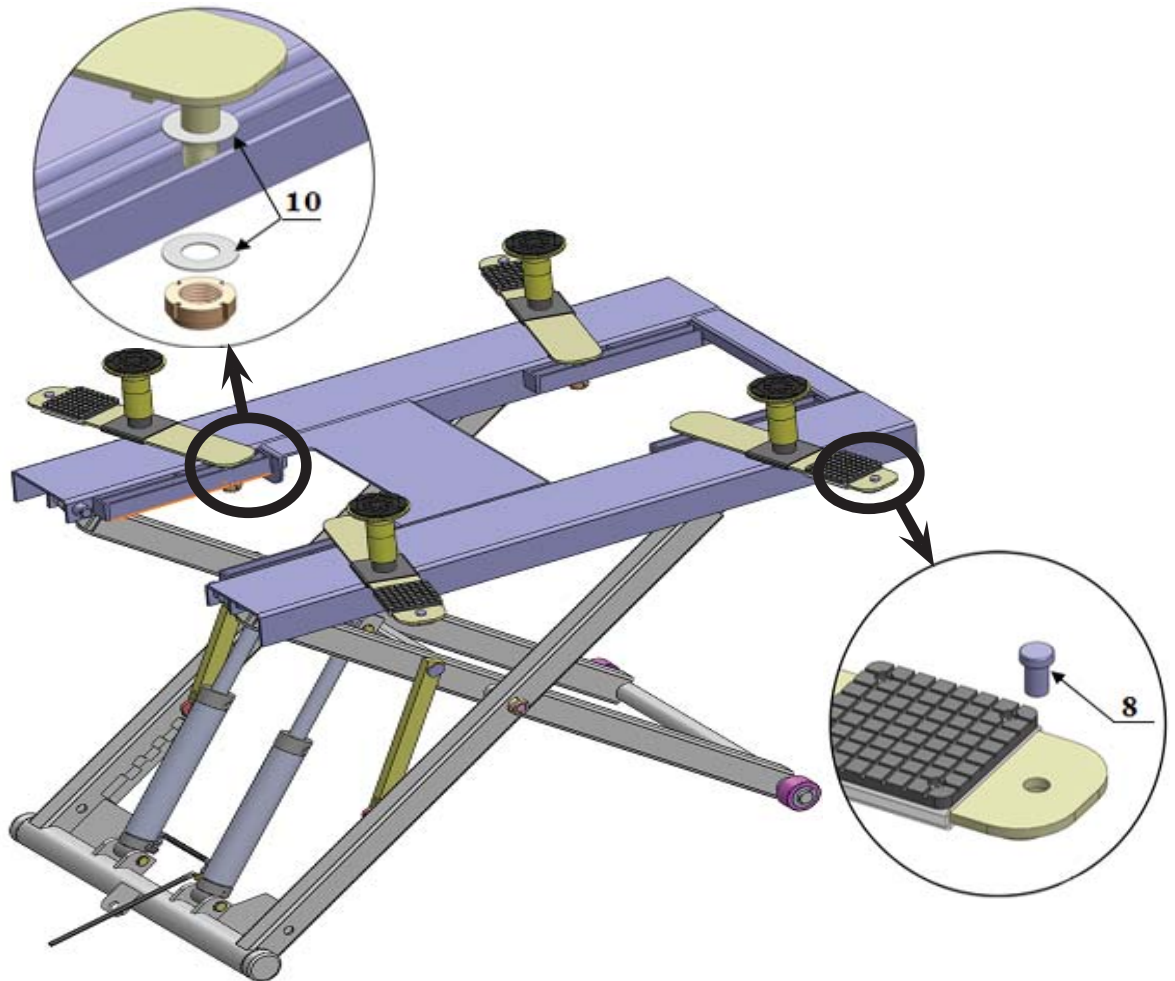

Fig. 9
2. Install supporting arms and rubber pads assembly (See Fig. 9)